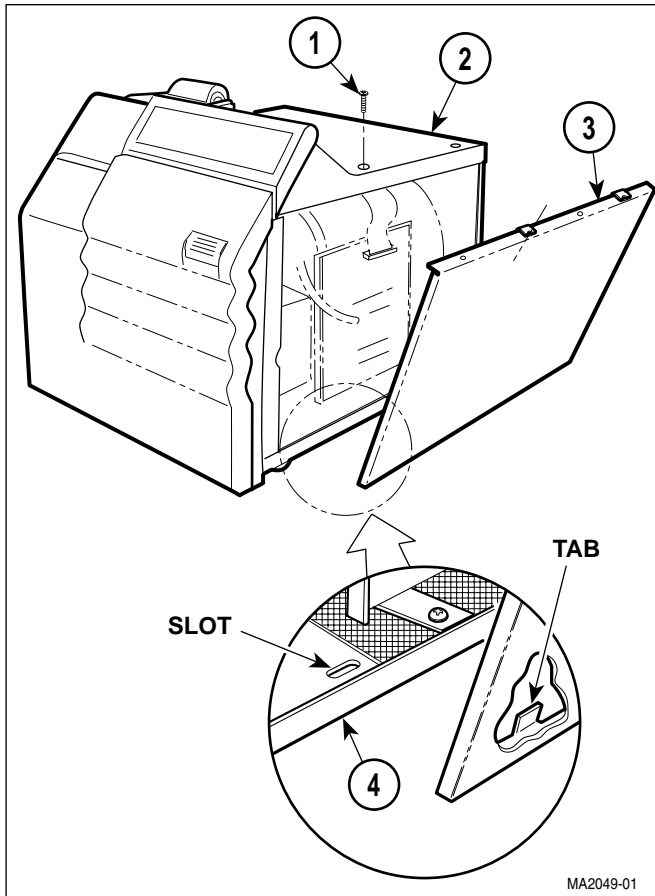

Figure 4-2. Right Hand Side Panel Removal / Installation
- (1) Disconnect power cord from the outlet.
- (2) Remove two screws (1, Figure 4-2) from top cover (2).